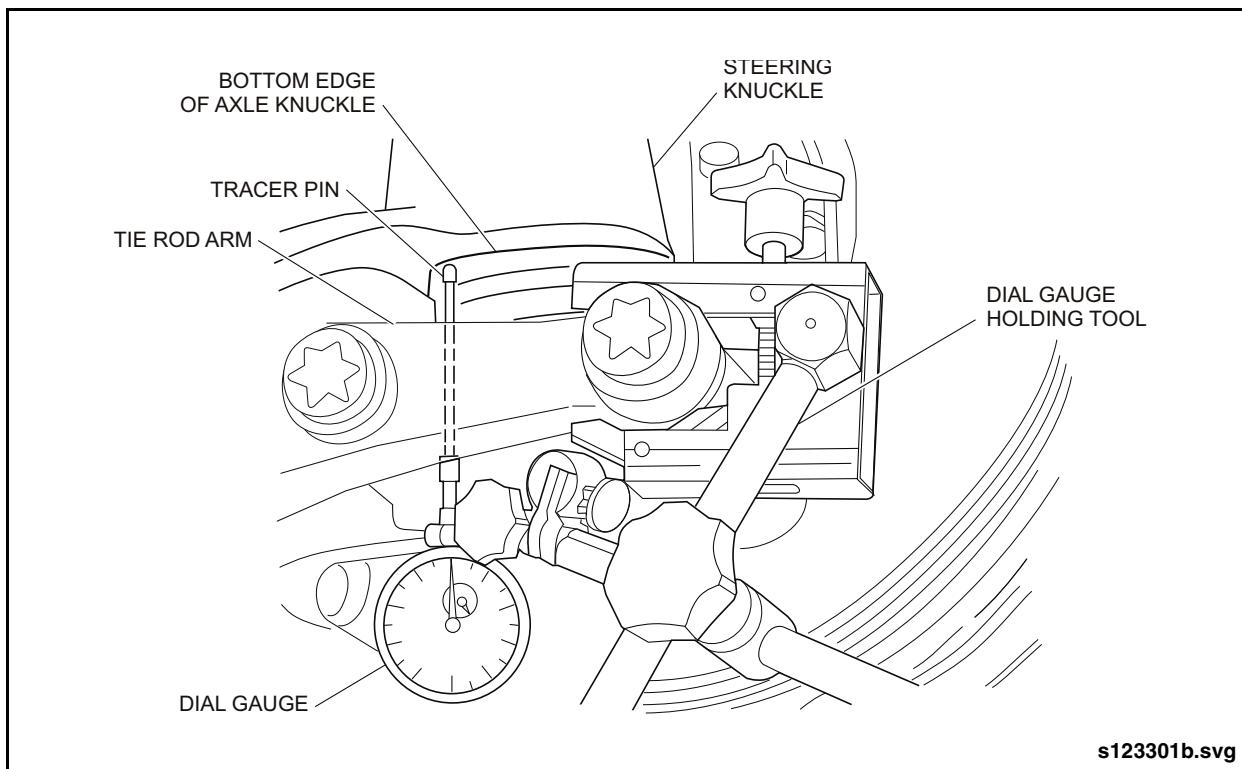

Fig. 1-23: Dial Gauge Installation
2. Secure the dial gauge holder to the axle beam or the tie rod arm. See "Fig. 1-23: Dial Gauge Installation" on page 22.